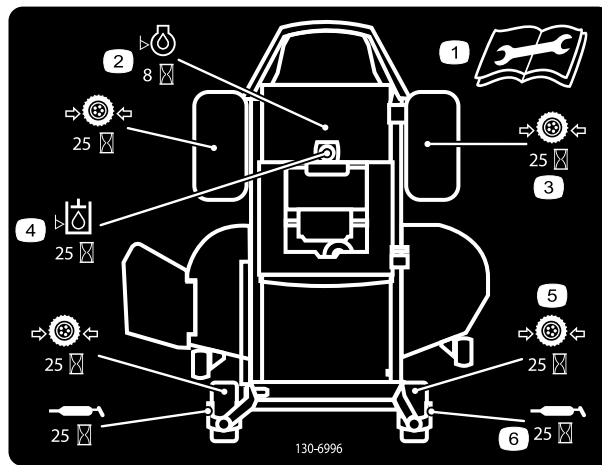

Figure 28
3. Clean the grease fittings (Figure 28 and Figure 29) with a rag. Make sure to scrape any paint off of the front of the fitting(s).
4. Connect a grease gun to each fitting (Figure 29 and Figure 28). Pump grease into the fittings until grease begins to ooze out of the bearings.